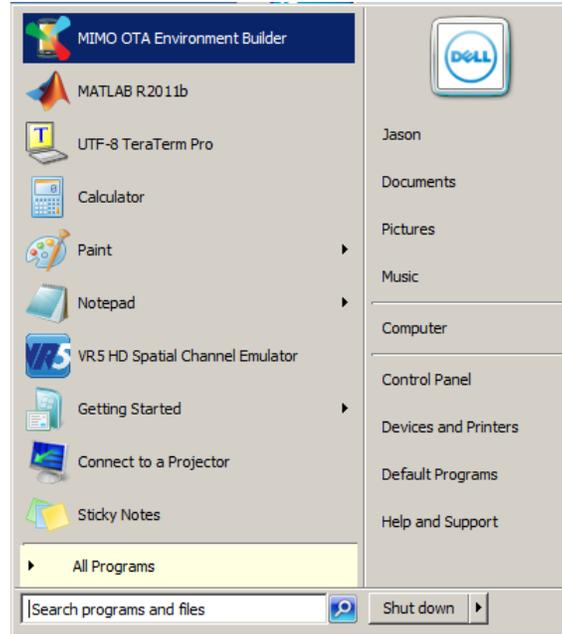

Figure 3-1: Windows Menu – Launching the Application
3. Select **Start** > **MIMO OTA Environment Builder**, as shown in Figure 3-1. The *Instrument Configuration* window displays.
1. Select **Start>MIMO OTA Environment Builder**, as shown in Figure 3-1. The *Instrument Configuration* window displays.